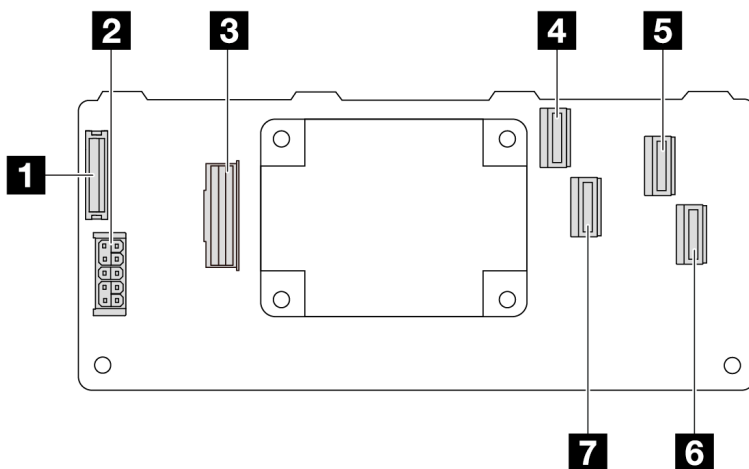

Figure 299. A Gen 3 16i CFF RAID adapter (four port connectors)
- Figure 299 “A Gen 3 16i CFF RAID adapter (four port connectors)” on page 290